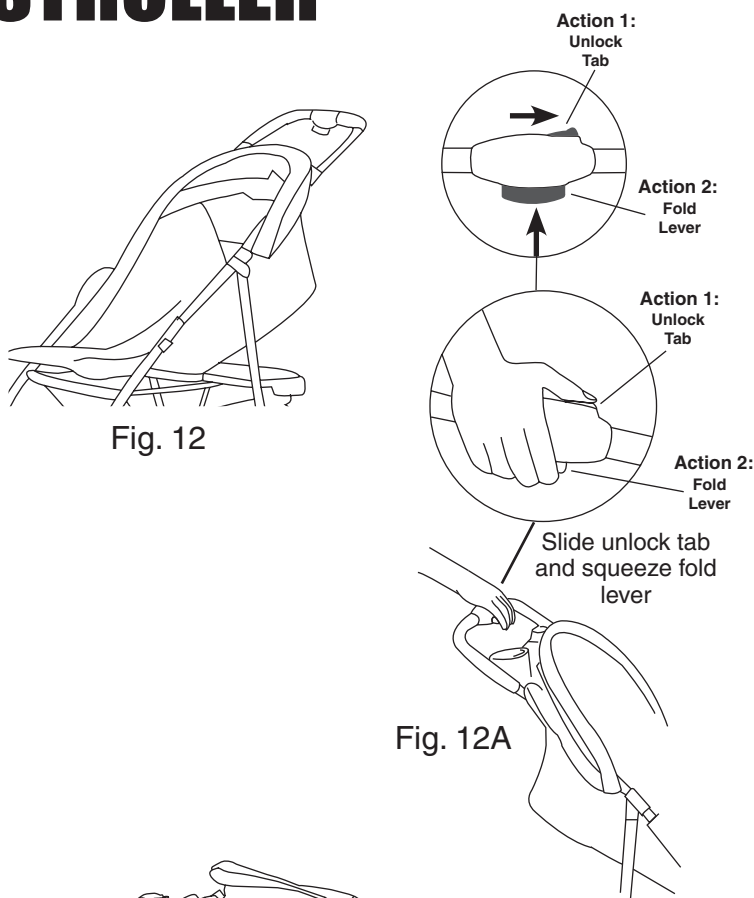
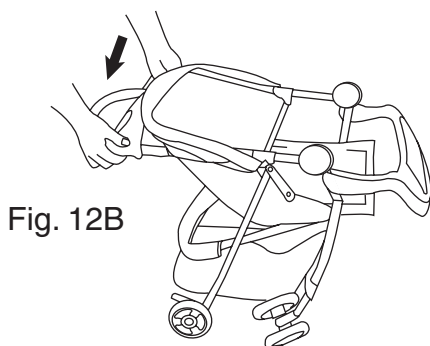

Fig. 12A
Fig. 12B
**Action 2;** While holding unlock tab, squeeze the fold lever inward and push downward on the handle. (Fig. 12A) (Fig. 12B)